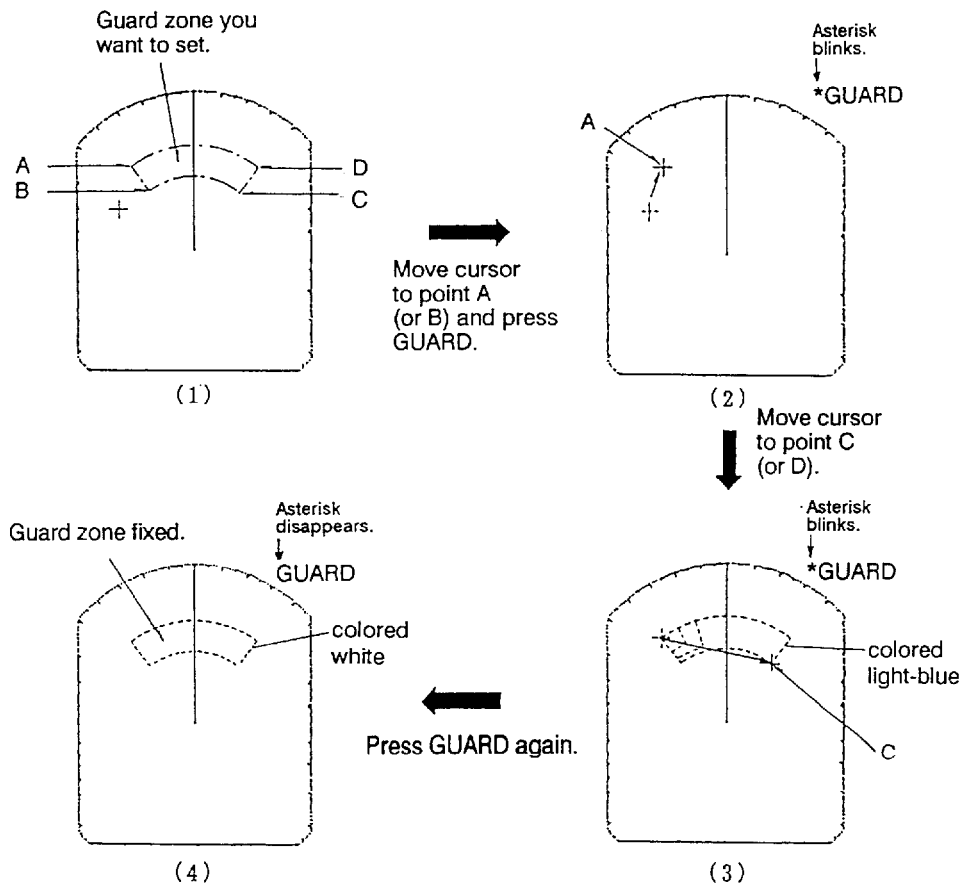

Figure 2-16 Setting Guard Zone
1. Mentally create the guard zone you want to display on-screen. See Figure 2-16 (1).
2. Set the upper (lower) left edge of the guard zone with the cursor. Press the **GUARD** touchpad. The indication "**\*GUARD**" (asterisk blinking) appears at the upper right-hand side of the screen. (See Figure 2-16 (2).) The asterisk indicates the guard zone is partially set, but the alarm function has been actuated. It disappears once the guard zone is set completely.
3. Moving the trackball clockwise, set the lower (upper) right edge of the guard zone. The guard zone now appears on the display. See Figure 2-16 (3).
4. Press the **GUARD** touchpad again. The asterisk disappears and the color of the guard zone changes to white. See Figure 2-16 (4).